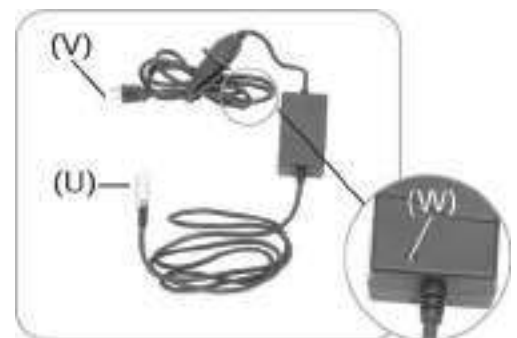

Figure 30
- Output Voltage: 100V~240V (Figure 30)
1. Charger output cable, 3pins ☹ connector (U)
2. AC power cord (V)